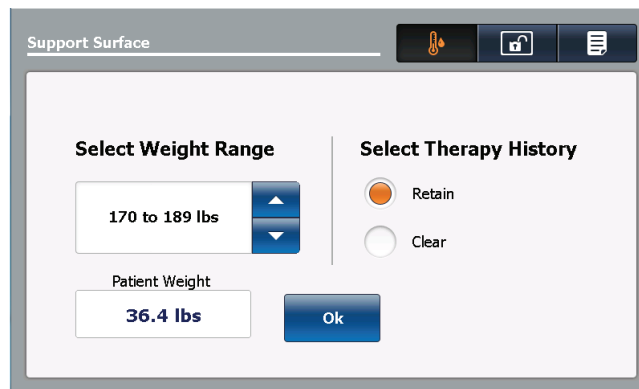

Figure 47 – Surface setting screen
1. Tap the up and down arrows to select the desired weight range (Figure 47).
Tap **Retain** to keep therapy history (Figure 47).